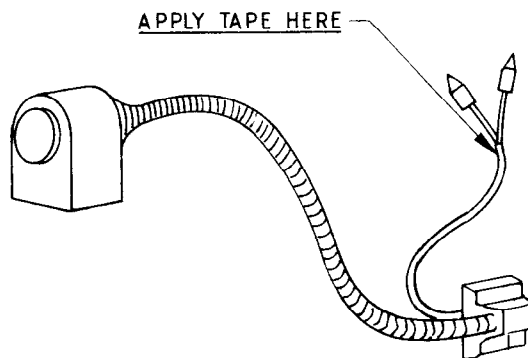

FIG 2 - MAPLIGHT WIRING
- c. Fit the new clip (item 1 from Table 1) using the new screws, nuts and washers (items 2, 3 and 4 from Table 1). Plug the existing mounting hole with one of the original mounting screws.
- d. Ensure that a sleeve is fitted over the maplight wiring, see Fig 2, and that the sleeve is located in the hole in the dash.
- e. If the sleeve is located in the dash then apply insulation tape at the point shown in Fig 2.
- h. If chafing is evident repair the wiring, fit the sleeve (item 5 from Table 1) over the wiring and secure as shown in Fig 2.